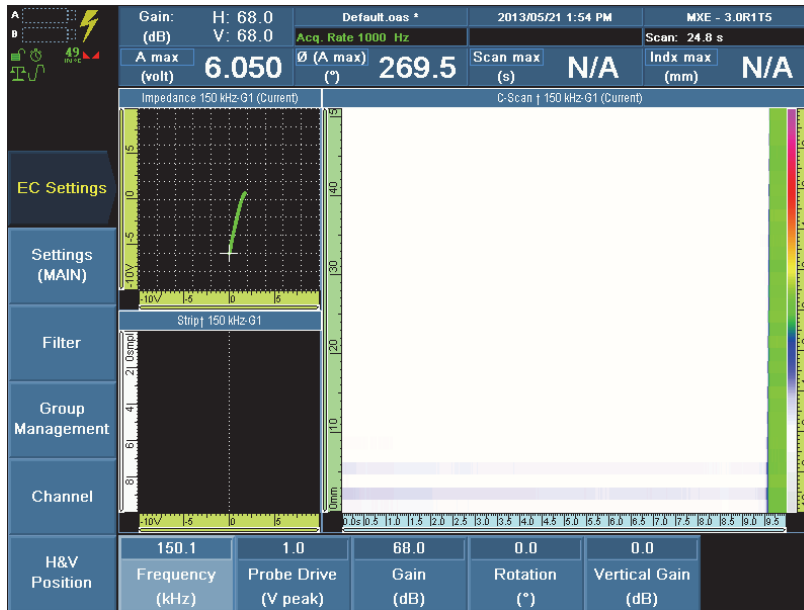

Figure 13-28 Setting the frequency for stress corrosion cracking detection on carbon steel piping
4. Set the frequency. Select **EC Settings > Settings (MAIN) > Frequency = 150**, and then press the Accept key to confirm (see Figure 13-28 on page 266).